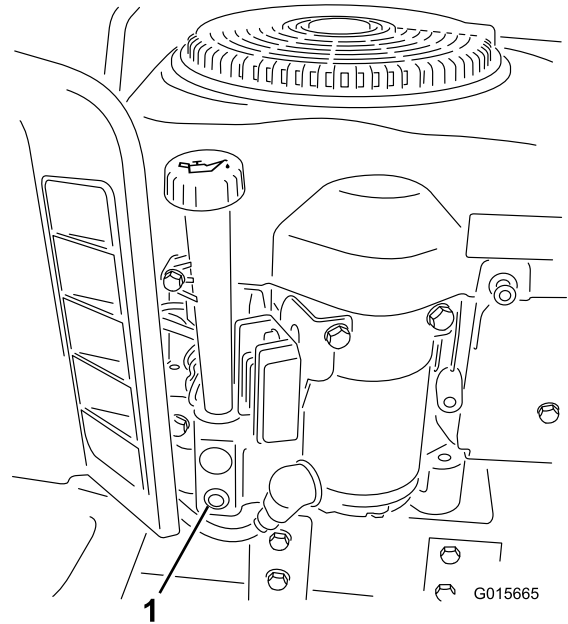

Figure 18
- Place a drain pan below the oil drain plug and open the drain plug by turning the end nut counterclockwise (Figure 18).
- Slowly pour approximately 80% of the specified amount of oil into the fill hole (Figure 18). Check the oil level; refer to step 4 of Checking the Oil Level.